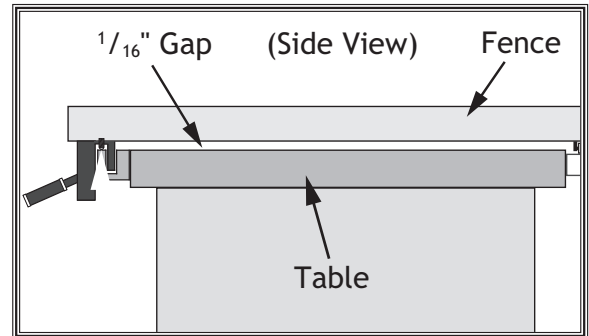

Figure 114. Example of even gap between fence and table approximately $\frac{1}{16}$ " front to back.
- If gap is approximately $\frac{1}{16}$ " and even from front of table to back (see **Figure 114**), then no additional adjustments are necessary. Proceed to **Fence Handle Clamping Pressure** below.